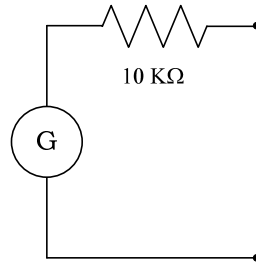

Figure 5.3: Constructed Voltmeter circuit
1. Construct a voltmeter using a galvanometer as shown in Figure 5.3.